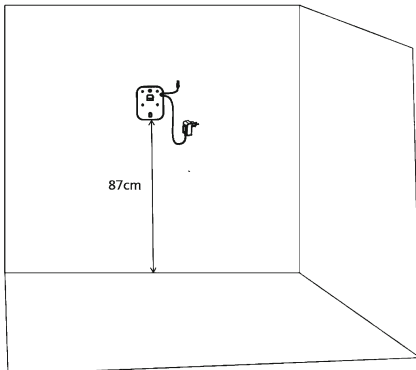
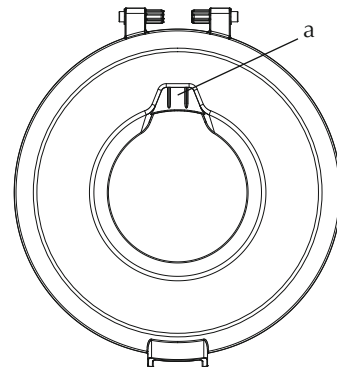

Fig. 3
Fig. 4
If you want to use the wall mount (10), simply place it on the wall and attach it using the screws supplied. Store the appliance on the wall mount. You find the hook (a) provided for this purpose on the dust container cover (7) (see Fig. 4). Recommended height: 87 cm (see Fig. 3).